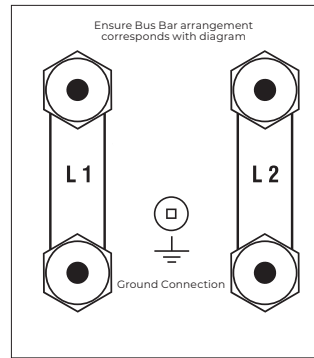

Figure 4 – Elements in parallel
3. Ground connections for 120V and higher voltage heaters are required as indicated in Figures 4 and 5, page 6.
4. The number of terminals in the junction box can be two or four depending on the number of elements used in the fabrication of the heater. All MKII models incorporate a single element and therefore have only two terminals. The connection procedure for the different combinations is as described in Figures 4 and 5, page 6.